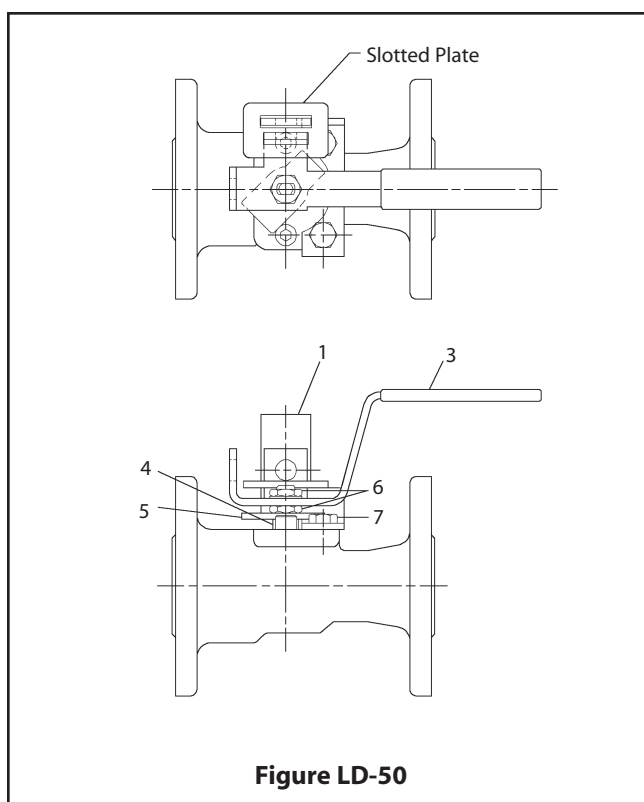

Figure LD-50
To install locking device 1/2" (DN 15) & 3/4" (DN 20) 5000 Flanged valves (**Figure LD-50**):
4. Place the locking frame from the kit (1) on the valve bonnet pad (**See Figure LD-50 for proper orientation**) and fasten using the hex cap screws (7) also from the kit.
5. From the kit, install the compression ring (4), indicator stop (5) and the packing nut (6). The packing nut is to be wrench tightened 1/8 to 1/4 turn.
6. Lift up the floating slotted support plate mounted to the locking frame (1). From the kit, place the handle (3) onto the stem. Let the floating slotted support plate drop down on the tab on the handle. Fasten the handle (3) to the stem using the lockwasher from the existing valve and handle nut (6) from the kit.